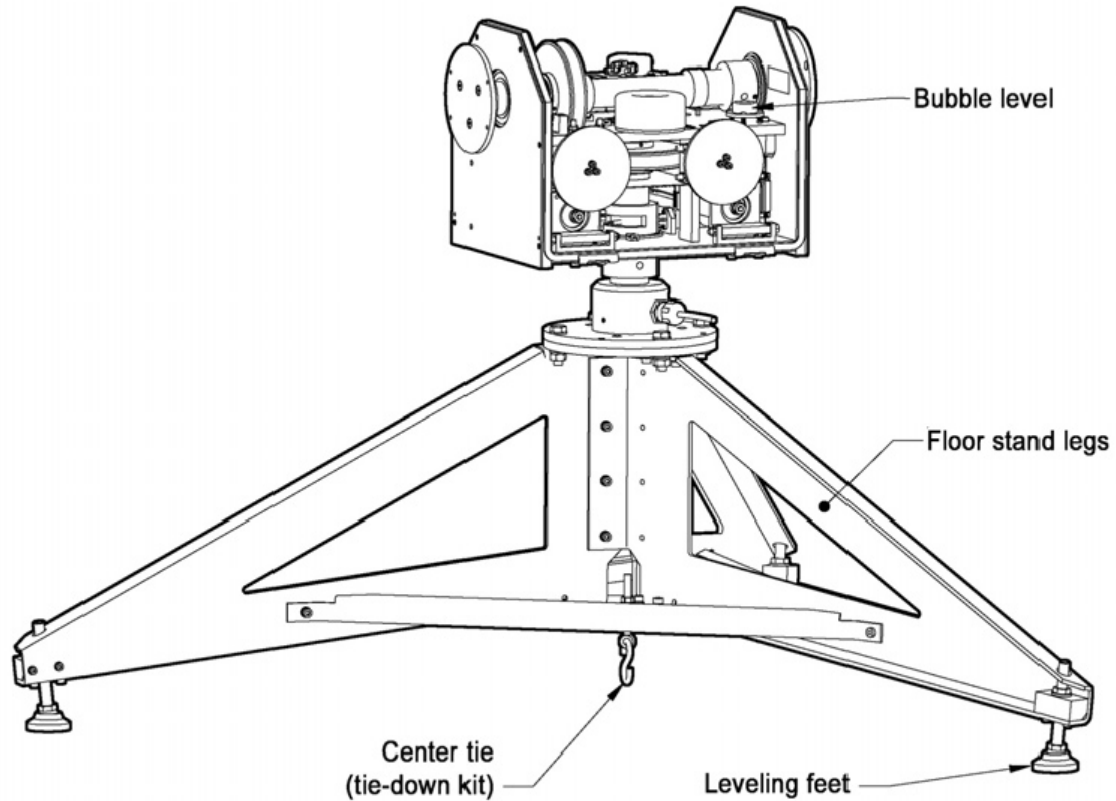

Figure 4.9: *Optional Tripod Floor Stand.*
- If the 2AP was purchased with the optional Tripod Floor Stand the unit can be leveled using the three levelling feet on the Stand. Adjust the levelling feet to move the bubble into the center of the level, see figure 4.9.